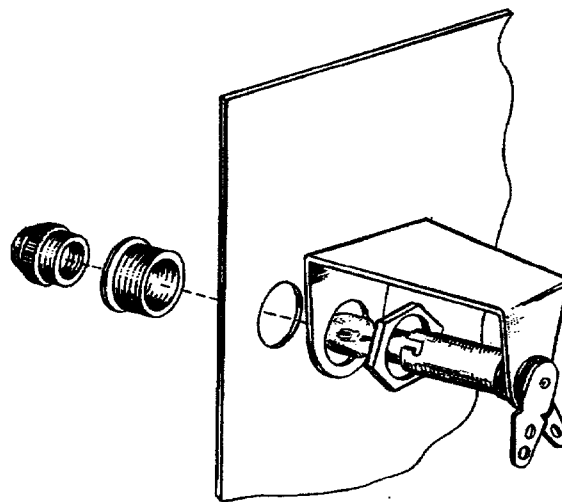
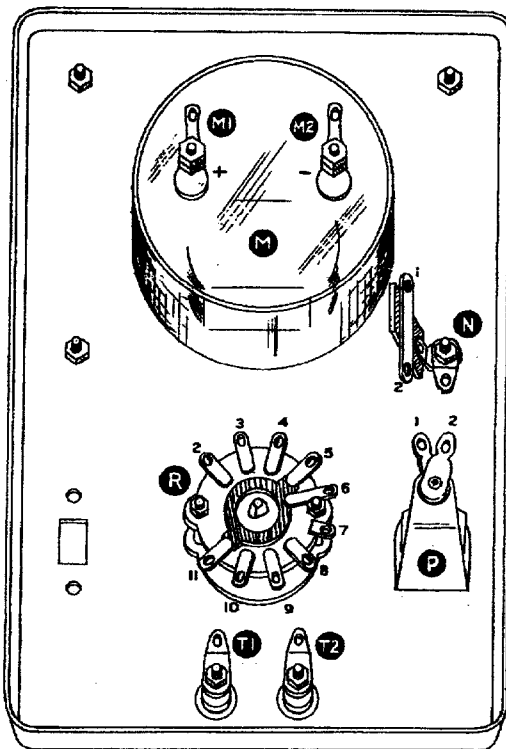

Figure 3. Pilot light mounting.
Figure 4. Panel showing mounting of parts.
- () Mount a pilot light socket assembly on the panel in location P. Refer to Figure 4 for the location and to Figure 3 on Page 5 for the method of mounting.